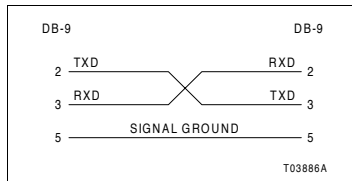

Figure B-1. RS-232-C Diagnostic Port Interconnection
The SIM-100 block firmware resides in flash-ROM memory which provides the ability to upgrade firmware without having to physically replace discrete components. Currently, new firmware is loaded into the SIM-100 module through its diagnostic port (P7). This requires the side cover of the module to be removed and the special operations switch (SW5) on the back of the module to be set to enable firmware upgrade. The SIM-100 diagnostic port uses simple null modem (i.e., cross-over), full duplex connection with no handshaking (Fig. B-1). Refer to Table 5-7 for P7 pin assignments.
4. Remove the right side cover of the SIM-100 module and connect a RS-232-C cable between the diagnostic port (P7) and the PC COM1 or COM2 port. Refer to Figure B-1 for the required RS-232-C signal connections.